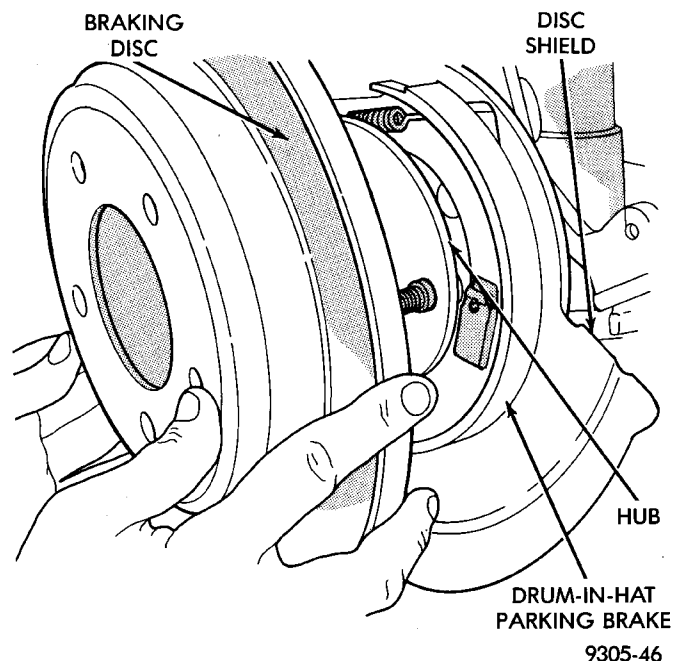

Fig. 71 Installing Rear Rotor
(3) If removed, install the rear rotor on the hub making sure it is squarely seated on the face of the hub (Fig. 71).